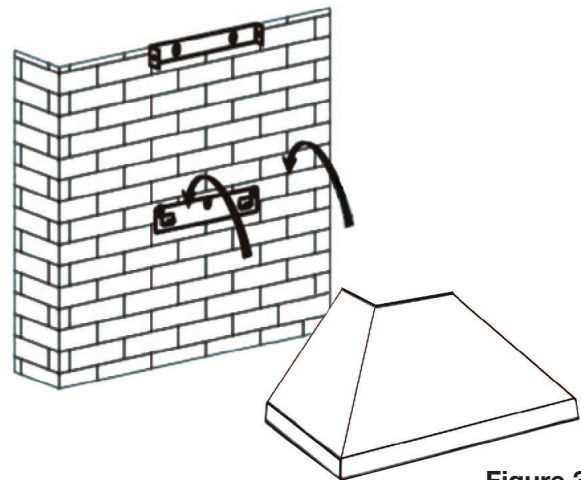

Figure 3
- Hang the range hood on the hooks of the hood mounting bracket (see Figure 3).